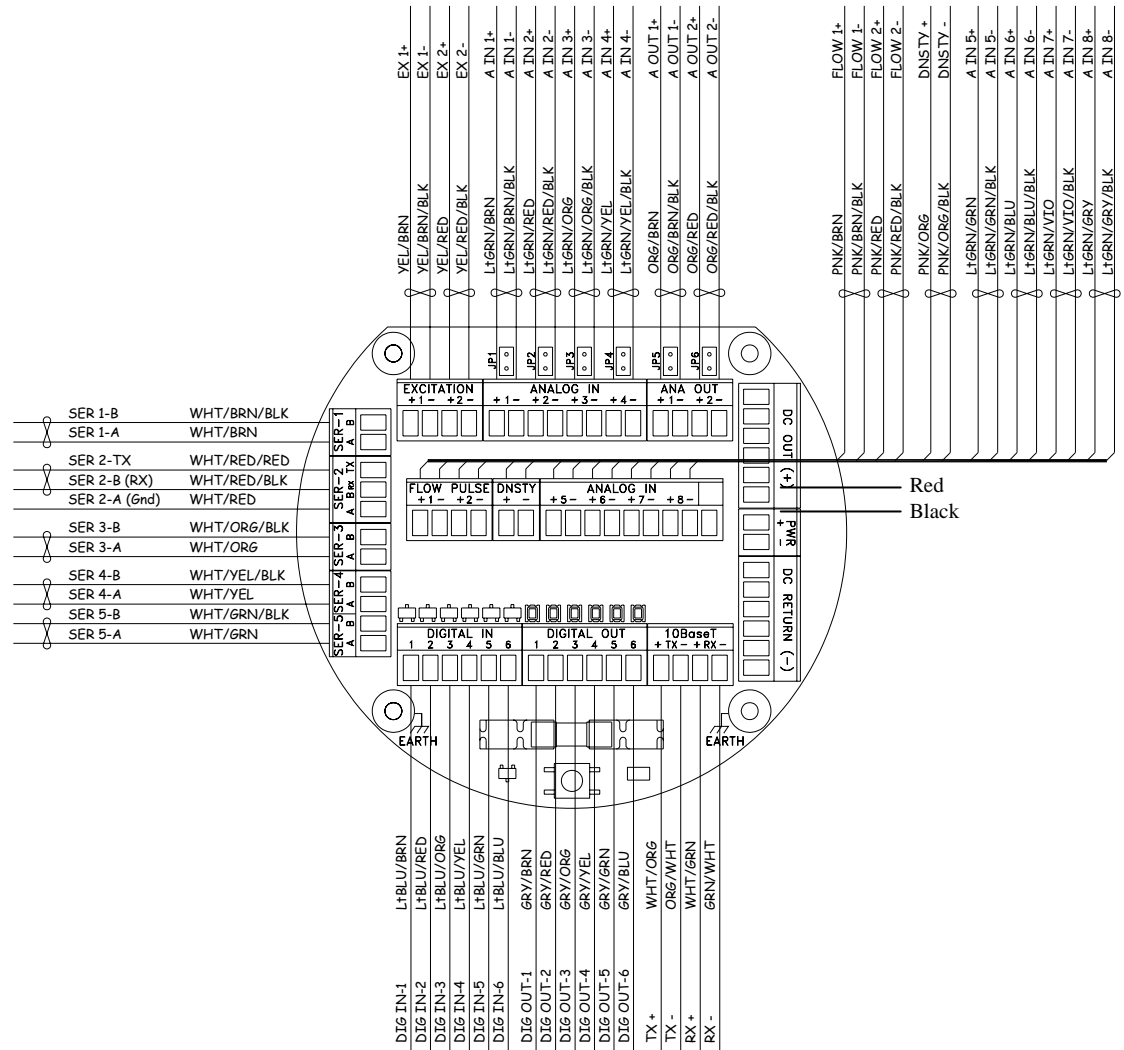

Figure 9.4 Terminal Board Wiring Diagram
15. See wiring diagram (Figure 9.4) for installation.